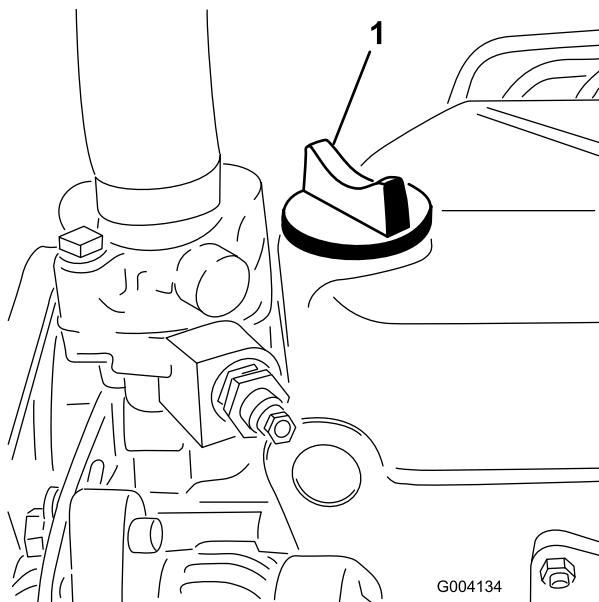

Figure 24
5. If the oil level is below the Full mark, remove the fill cap (Figure 24) and add oil until level reaches the Full mark on dipstick. **Do not overfill**.